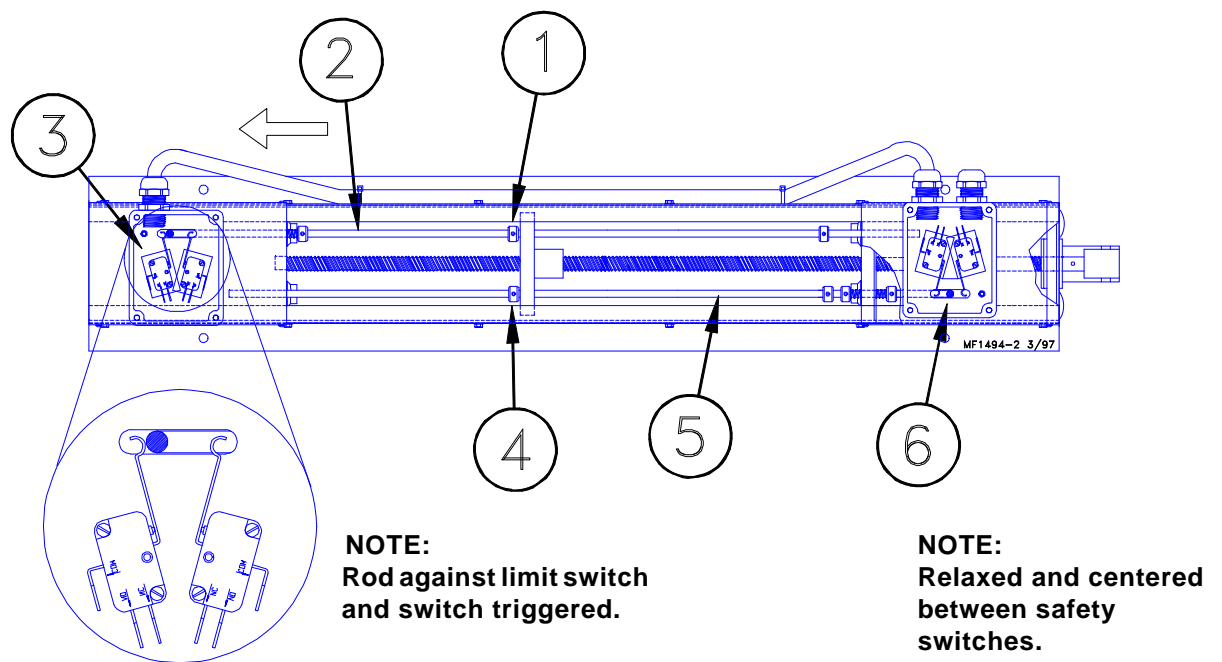

Figure 3. Setting Limits.
6. Loosen both set collars in middle. **See Figure 3.**
8. Push limit switch rod (2) toward limit switch box until the switch (3) clicks, hold and tighten that set collar (1) up against block.
9. Leaving the safety switch rod (5) in a relaxed position, move set collar (4) up the block and tighten.